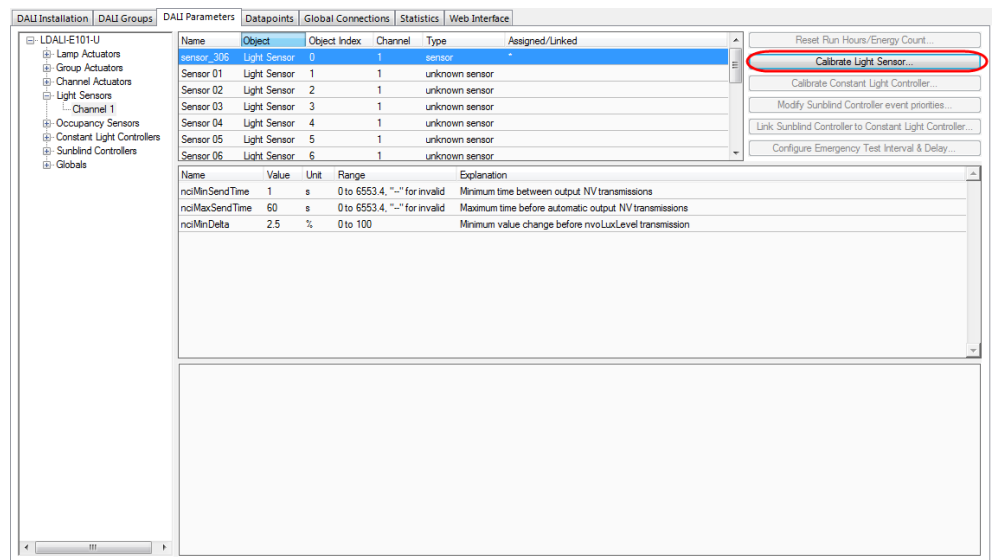
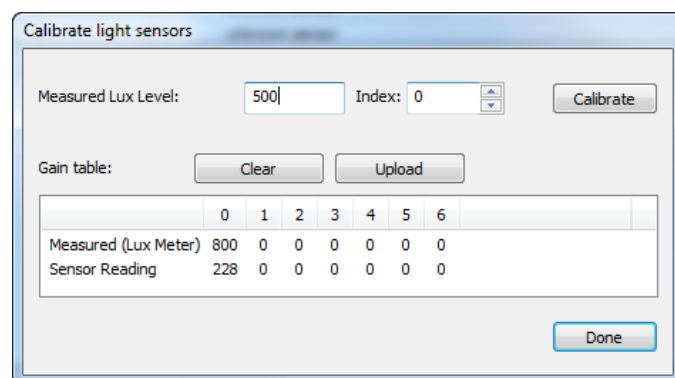

Figure 72: Parameterize Light Sensor.
Figure 73: Calibrate Light Sensor.
- Select the light sensor index 0 and click on the **Calibrate Light Sensor...** button as shown in Figure 72. The light sensor calibration window as shown in Figure 73 is displayed.